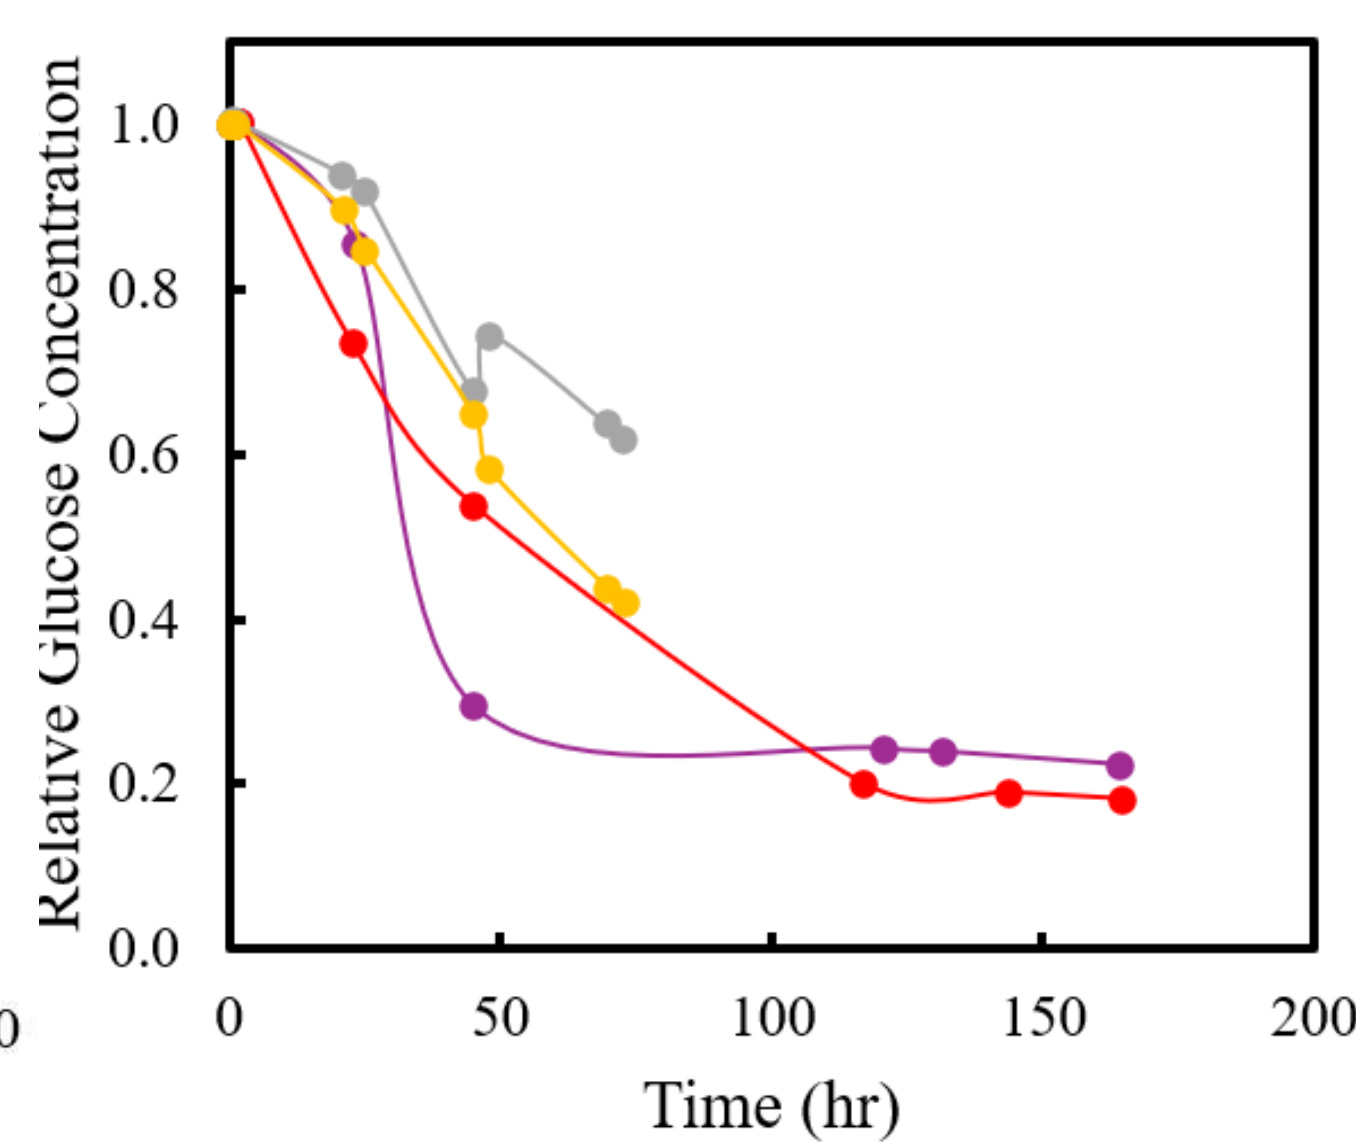

Figure 2. Relative glucose concentration vs. time (hr) for bioreactor samples of fermented fruit juices
- In Fig. 2 Relative Glucose Concentration (RGC) is shown and can be defined as the amount of glucose remaining divided by the initial glucose in the reactor